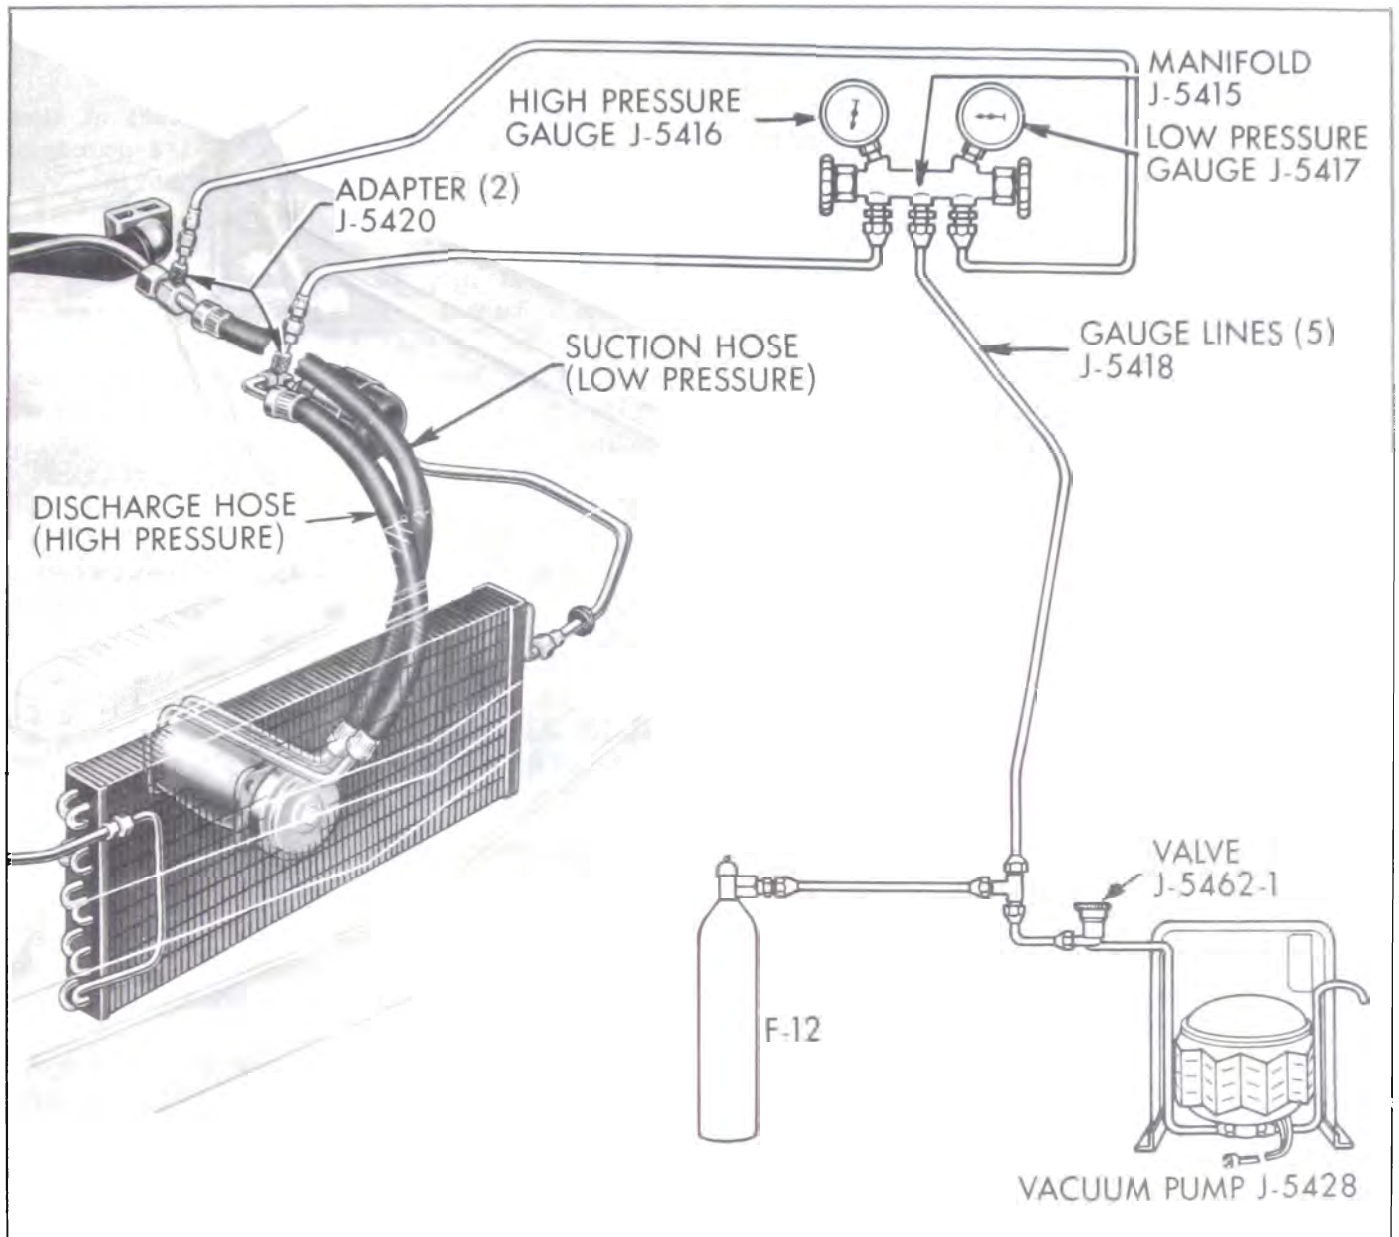

Figure 11-98—Air Conditioner Service Hook-Up - V-8 Engine Installation
1. Attach gauge lines, adapters and vacuum pump set-up as shown in Figure 11-98 and discharge any refrigerant that may be in system.
IMPORTANT: Figure 11-98 is the V-8 engine installation. The high pressure gauge line also attaches to the service valve at the muffler on the V-6 installation, but on the V-6 installation the
1. With the vacuum pump, refrigerant-12 cylinder and gauge set connected to the compressor as shown in Figure 11-98, place the cylinder in a bucket of hot water which does not exceed 125°F.
3. Gage set connected as shown in Figure 11-98